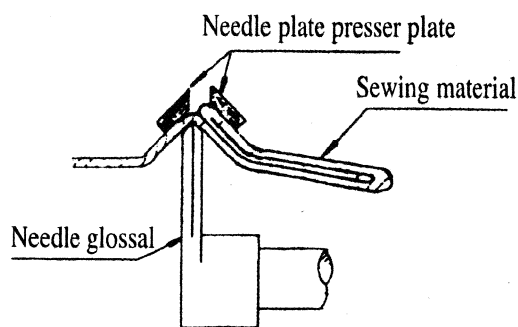

FIG.14-1
- A. Sewing edge of double-level material, put down the sewing material as Fig.14-1 showed.